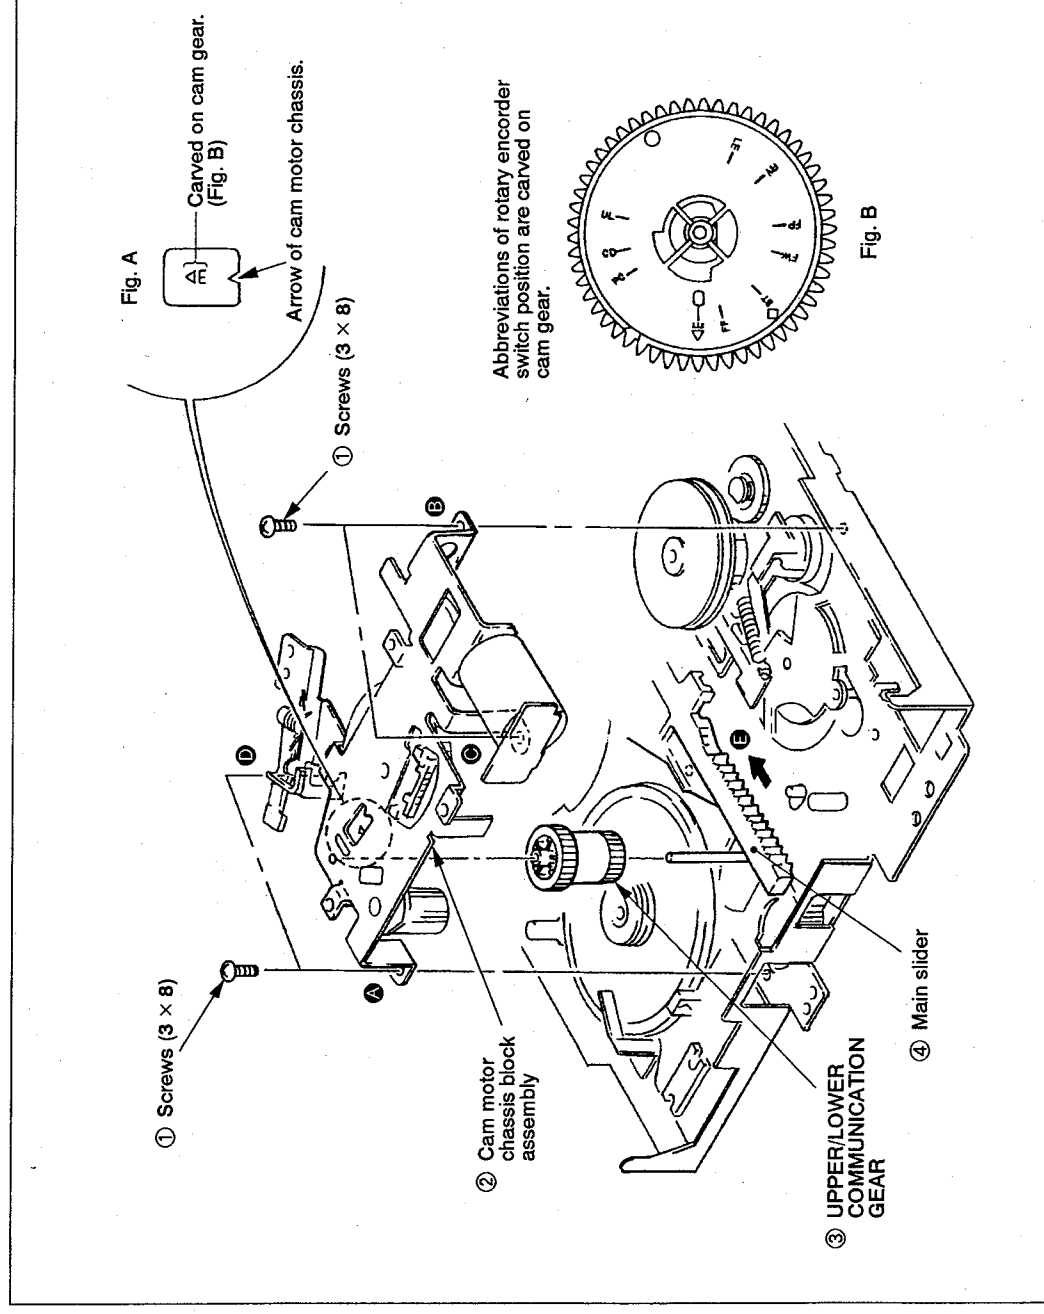

Fig. 3-18
3-16. CAM MOTOR CHASSIS BLOCK ASSEMBLY, UPPER/LOWER COMMUNICATION GEAR (Fig. 3-18)
- 1) Set the mechanism to the loading-end condition referring to 1-1. (Cam gear indicates "LE". (Refer to Fig. A and B of Fig. 3-18.))
- 2) Remove tension spring ① in the order A to E.
- 3) Remove stopper washer (2) ② to pull out TG1 assembly ③.